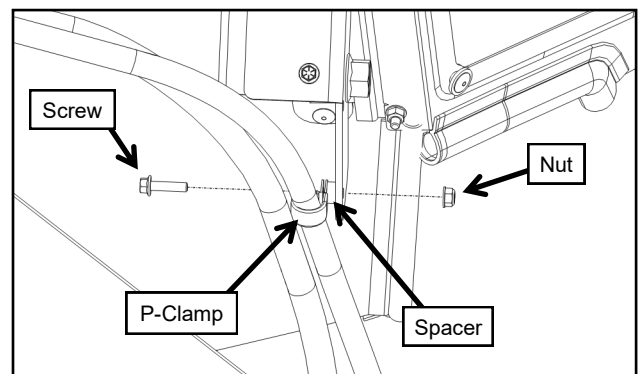

Fig. 2.30 (Right Side ROPS P-Clamp)
- 2.30** Position the provided 3/4" ID P-clamp around the smaller of the two A/C hoses and fasten to the right side ROPS mount as shown in Figure 2.30.